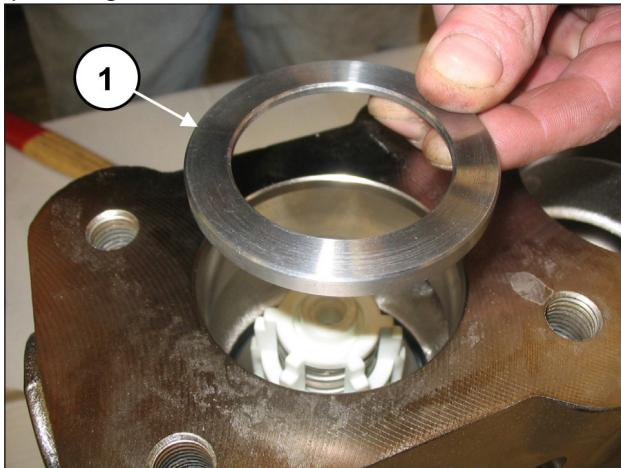
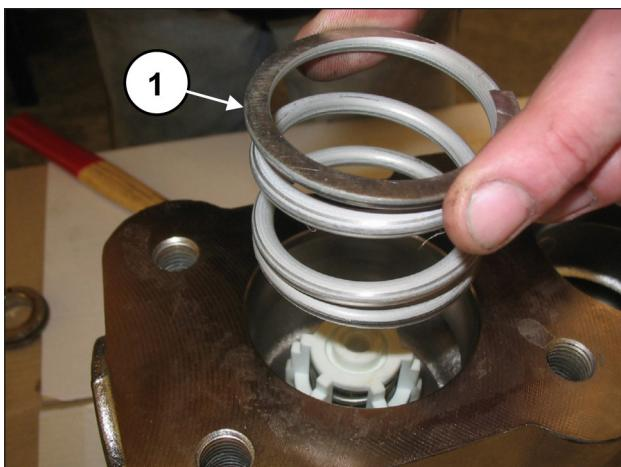

Fig. 125
Fig. 126
Insert the valve housing ring (pos. ①, Fig. 125), and its spring (pos. ①, Fig. 126).